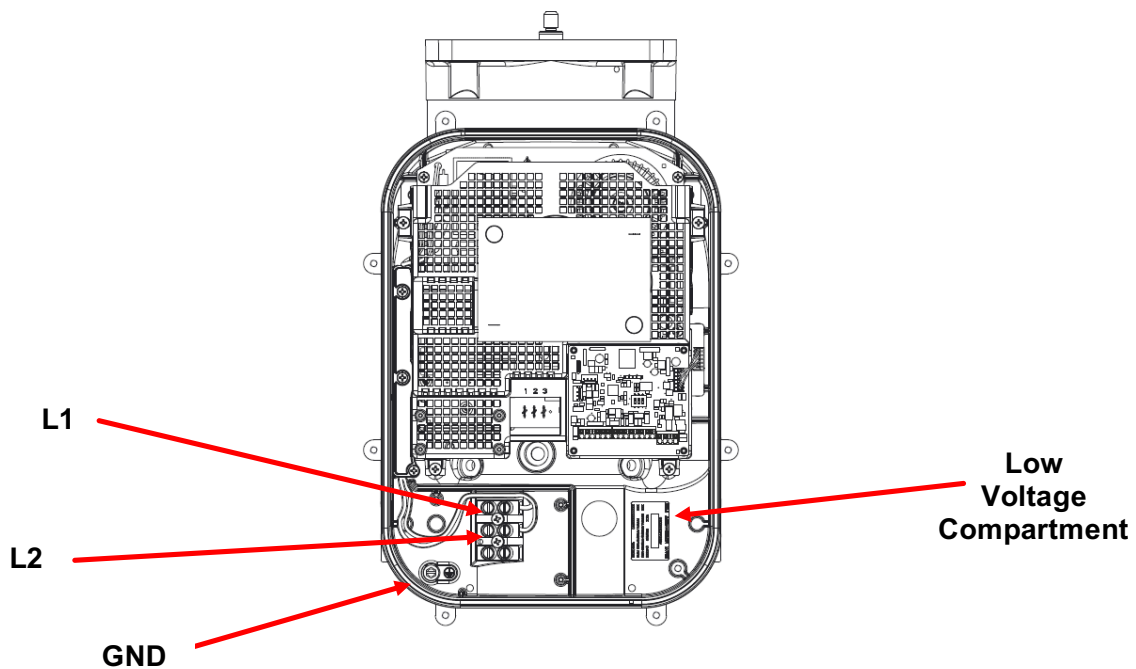

Figure 3
5. Install the GND and AC input wires as specified on the motor nameplate. You must connect L1, L2, and GND in the wiring compartment correctly and securely. (Refer to **Figure 3.**)